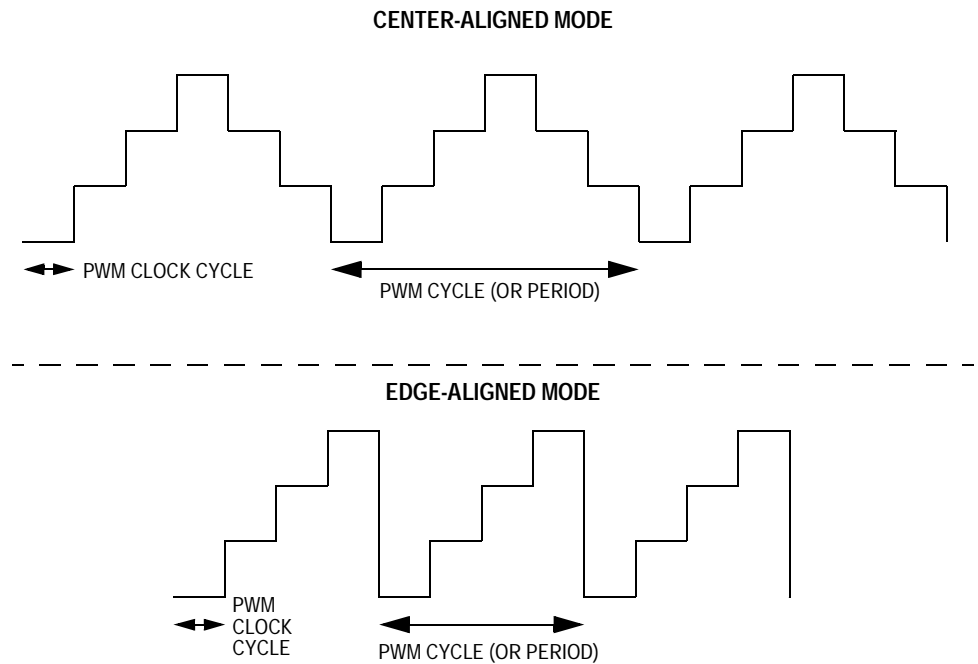

Figure 9-43. PWM Clock Cycle and PWM Cycle Definitions
PWM Clock Cycle (or Period) — One tick of the PWM counter ($1/f_{OP}$ with no prescaler). See Figure 9-43.
- Center-aligned mode: The time it takes the PWM counter to count up and count down (modulus * $2/f_{OP}$ assuming no prescaler). See Figure 9-43.
- Edge-aligned mode: The time it takes the PWM counter to count up (modulus/ f_{OP}). See Figure 9-43.